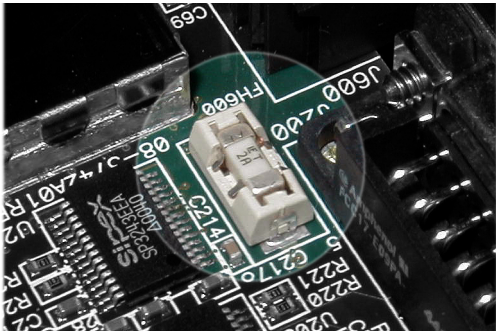

Figure 2. Fuse Location
5. Locate the fuse and fuse holder between the COM1 port and the power connector. Figure 2 is a photograph of the fuse assembly.